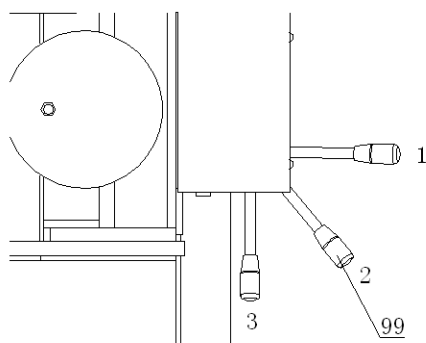

Fig. 8
(refer to fig. 8)
Turn the handle lever (99) of socket valve to position 3. (fig 8)
Turn the handle lever (99) of socket valve to position 1. (fig 8)
To stop the movement of the piston rod: stop pumping the handle tube (50) or release the air foot valve (P54), the piston rod will stop moving. Then turn the handle lever (99) of selector valve to position 2. (fig 8)